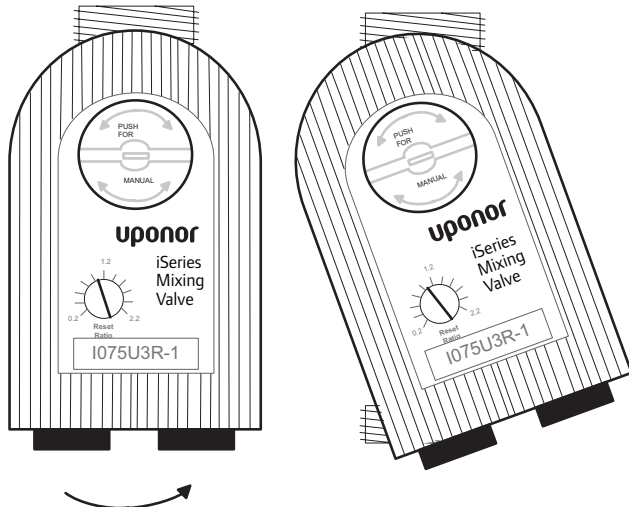

Figure 5: Actuator Removal
2. To remove the actuator prior to soldering, rotate it counterclockwise approximately 30 degrees and lift upward approximately $\frac{3}{4}$ " (see **Figure 5**).